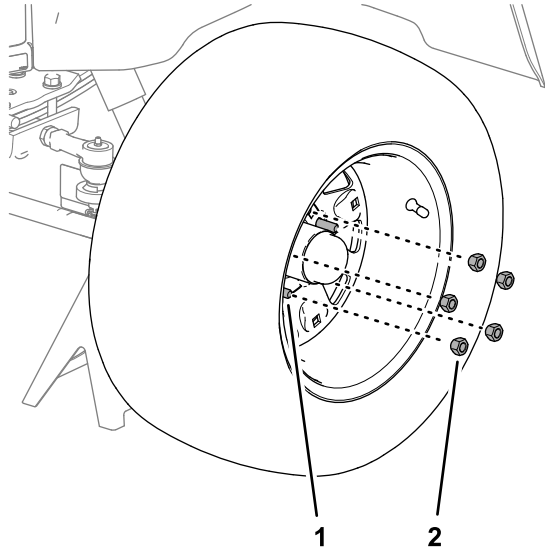

Figure 16
1. Align the holes of the wheel onto the studs of the wheel hub (Figure 16).
2. Assemble the wheel to the studs with the 5 wheel nuts, and tighten them by hand (Figure 16).